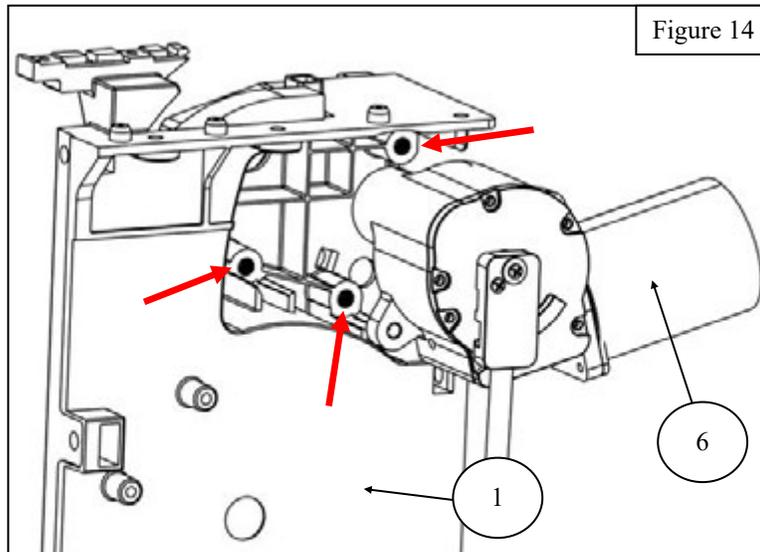

Figure 14
5. Install the motor (**Item 6**) onto the Tonneau Cover Canister Assembly (**Item 1**), place the canister upright on level ground and locate the mounting location for the motor on the driver side. Use **Figure 14** as reference.